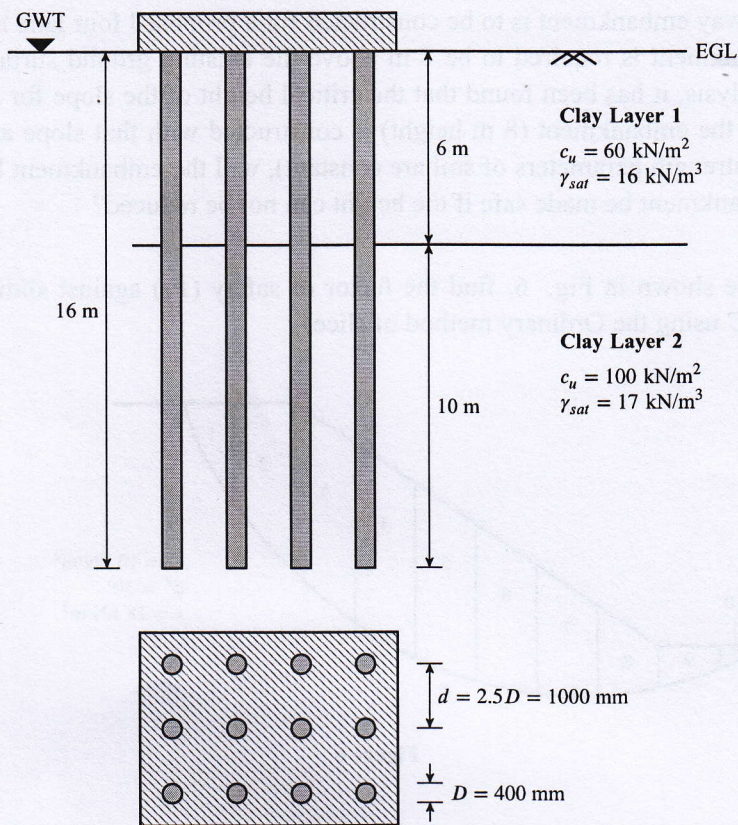

Figure 4
- (b) A pile group in layered saturated clay soil is shown in Fig. 4. The piles are circular in cross section ($D = 400 \text{ mm}$). The center-to-center spacing (d) of the piles is 1000 mm ($d = 2.5D$). Determine the allowable load carrying capacity of the pile group. Use a factor of safety, $FS = 4$. [10]